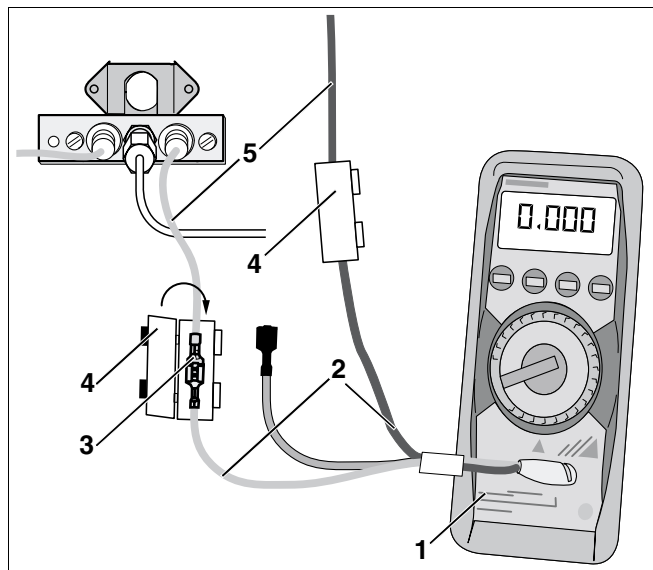

Fig. 12 Checking the ionisation current
- Connect the test equipment (Fig. 12, **Item 1**) in series to the contacts of the split plug-in connector of the monitoring lead (Fig. 12, **Item 3**).
- Fit the contact protector (Fig. 12, **Item 4**) around the plug-in connector.
- On the test equipment (Fig. 12, **Item 1**), select μA DC.
- Plug the monitoring lead plug-in connector (Fig. 12, **Item 3**) into its mating part again.
- Refit the contact protector (Fig. 12, **Item 4**) to the monitoring lead (Fig. 12, **Item 5**).